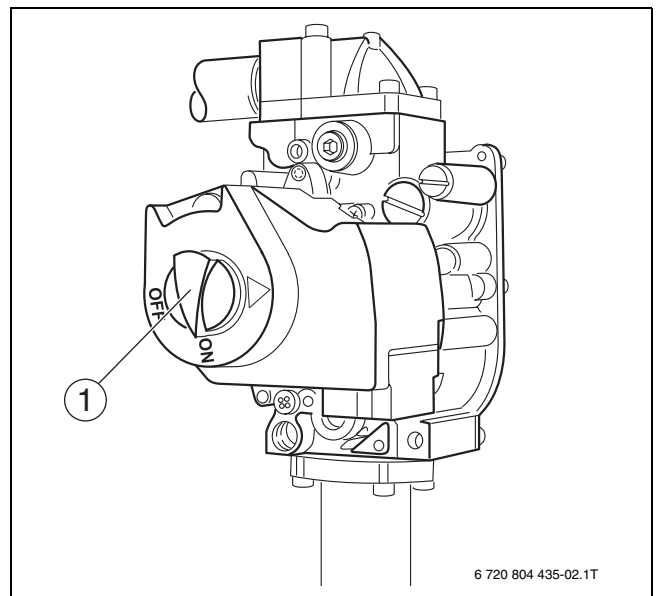

Fig. 2 Gas valve
- ▶ Never use excessive force on the ON/OFF knob (→ figure 2).